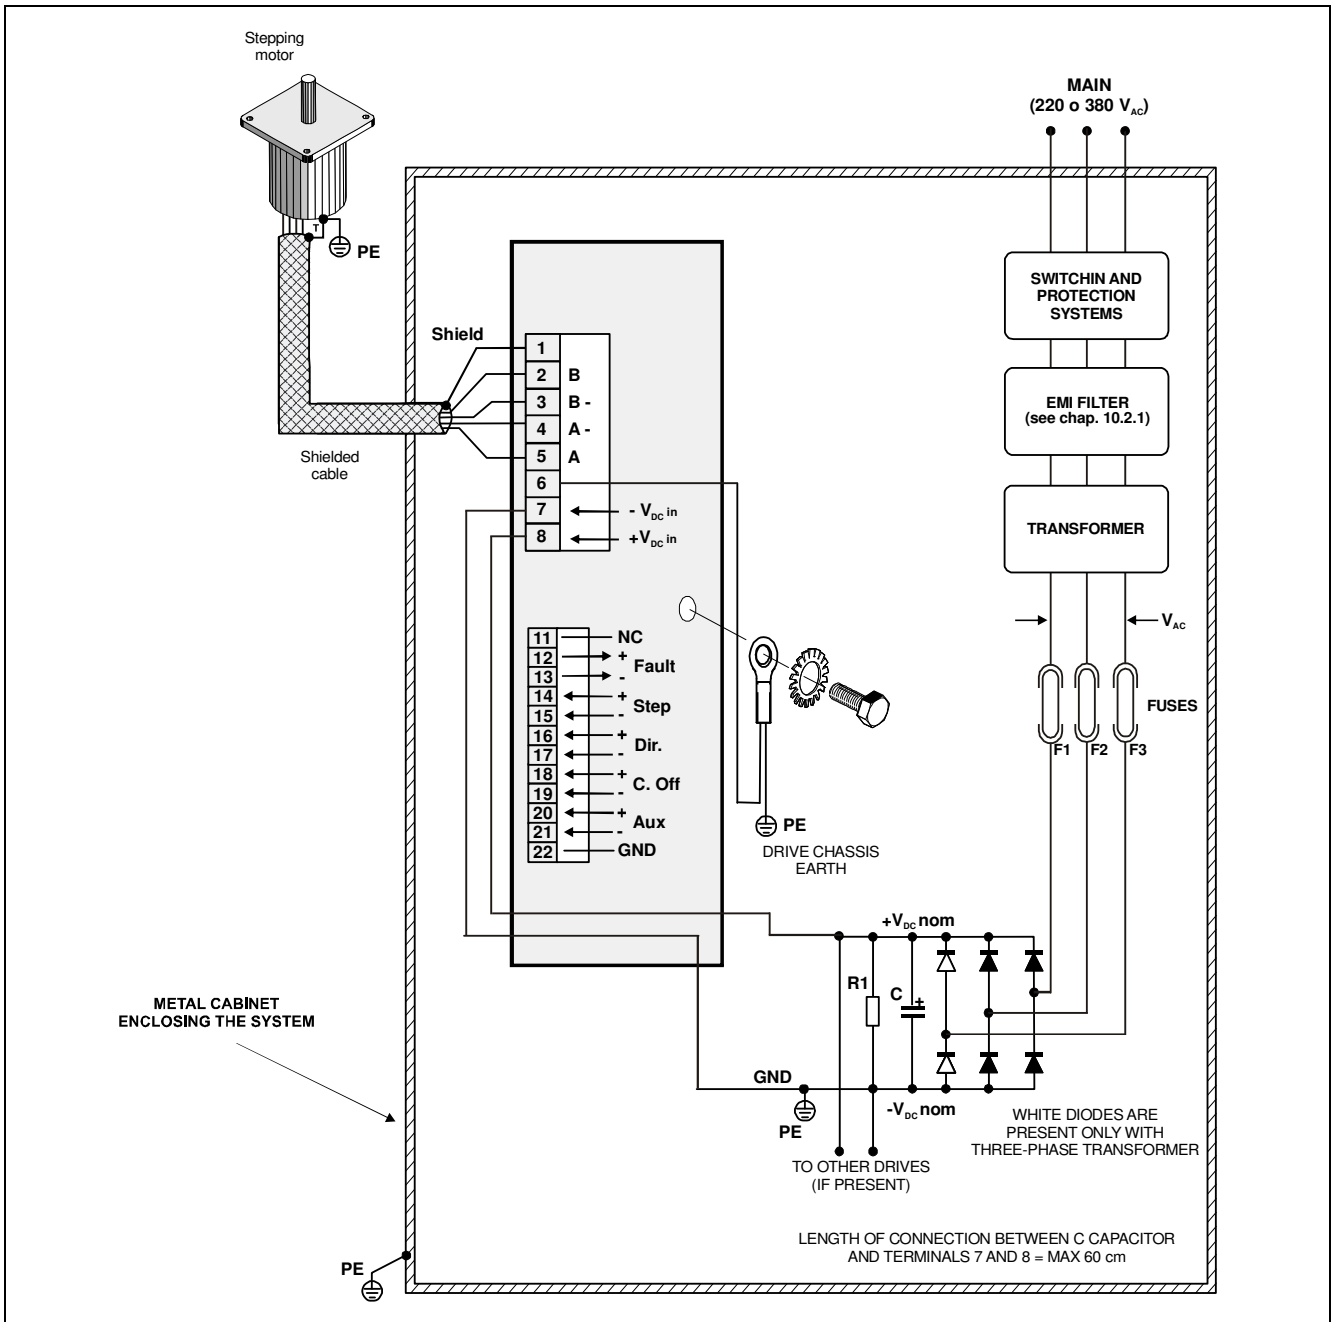

Fig. 6 – Drive external connections scheme.
- 7.4- **F1, F2 and F3 are branch circuit protection fuses (see Fig. 6). In the case of a single 230V secondary winding supplies a single drive, the fuses 10 Amp, at least 250 Volt with I^2t between 150 A²s and 400 A²s (for example Cooper Bussman model KTK-R-10 or Littelfuse 215010.P) can be used. In the case of a single 230V secondary winding supplies more then one drive, the fuses must be chosen related to the total power of the drives.**
- 7.5- In the schematic diagram of Fig. 6 it is shown the possibility to use a single-phase group or, in alternative, a three-phase group. The choice between the two solutions depends on technical and economical considerations hard to summarize. Generally speaking a three-phase group is strongly recommended when the total required power overcomes one of these two limits: 500 - 600 Watt mean power and 700 Watt peak power. Please consider this only as a rough indication.